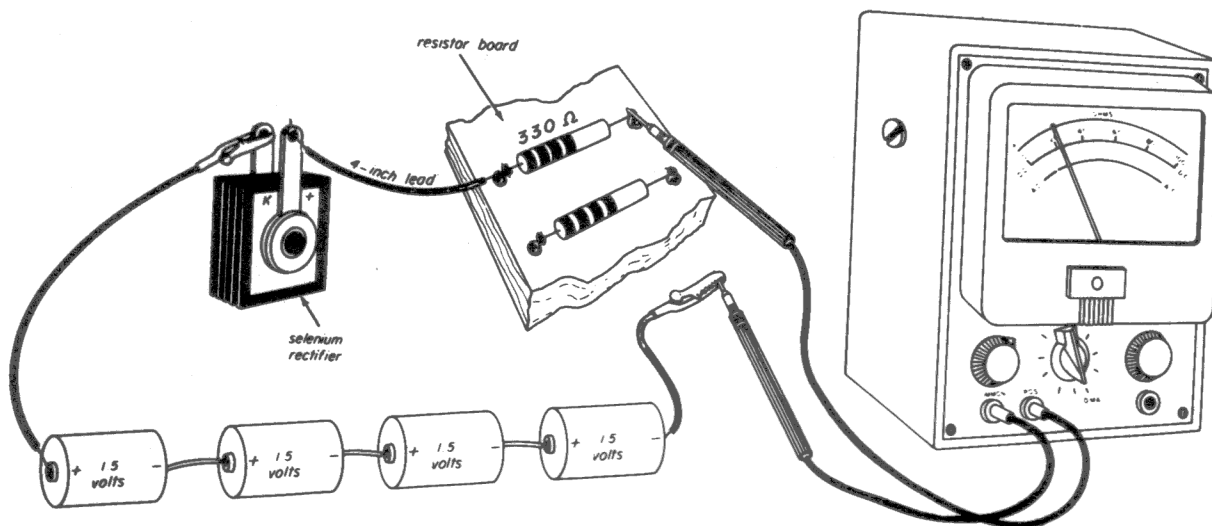

Fig. 17-1
Step 5. Set up the multimeter for service on the 10-milliamperere d-c range. Connect the meter positive test lead to the free end of the 330-ohm resistor. The portion of the circuit that is already completed should look like Fig. 17-1. If all of the connections agree with the illustration, continue with the next step.